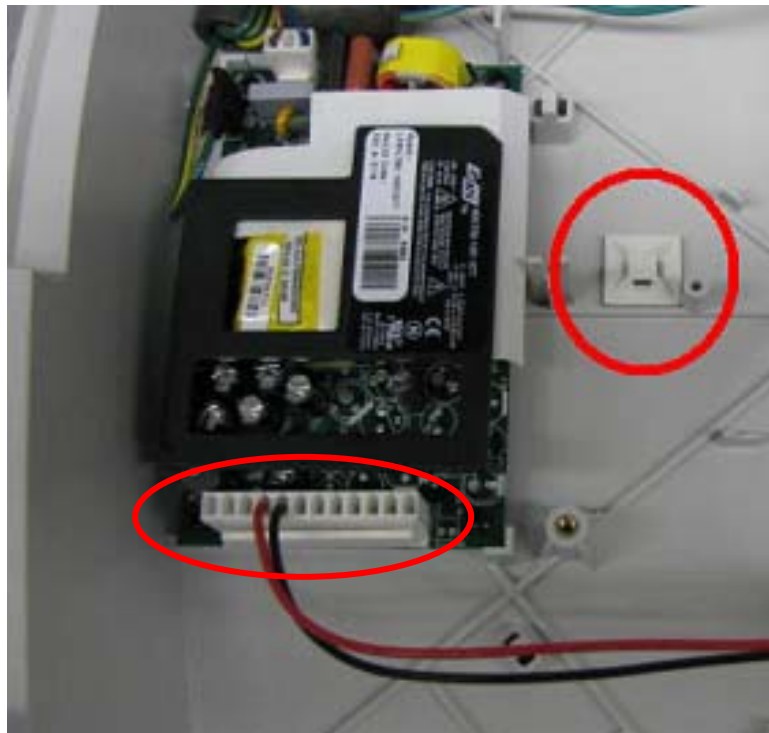

Figure 1
1. Replace the old harness with the new 714834 (HARNESS W/ ESD SHIELD) and connect the harness to the Power Supply (703611). Install Foam Strip (78P567) onto the Cable Tie Mount (113P463). Install the cable tie mount into housing 400042 located as shown. Justify the cable tie mount to the rib and boss as pictured (Figure 1).